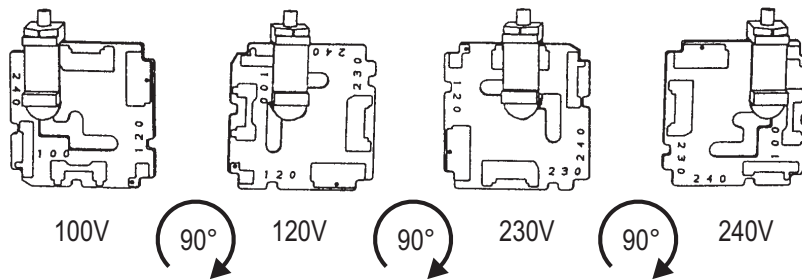

Figure 4. Voltage selector card positions.
- Orient the selector card so that the desired input voltage is readable at the bottom, shown in Figure 4. Then move the indicator pin to point up, with the pin assembly seated in the notch on the board edge.